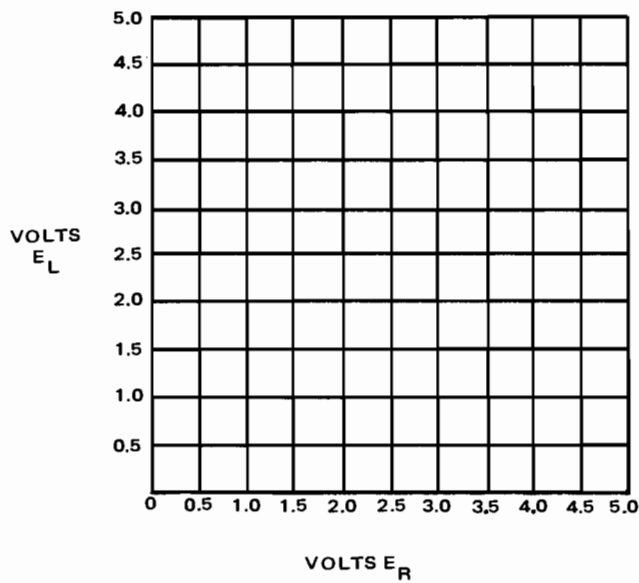

Fig. 9-6-2
5. To add values of E_L and E_R , use graph in Fig. 9-6-2.